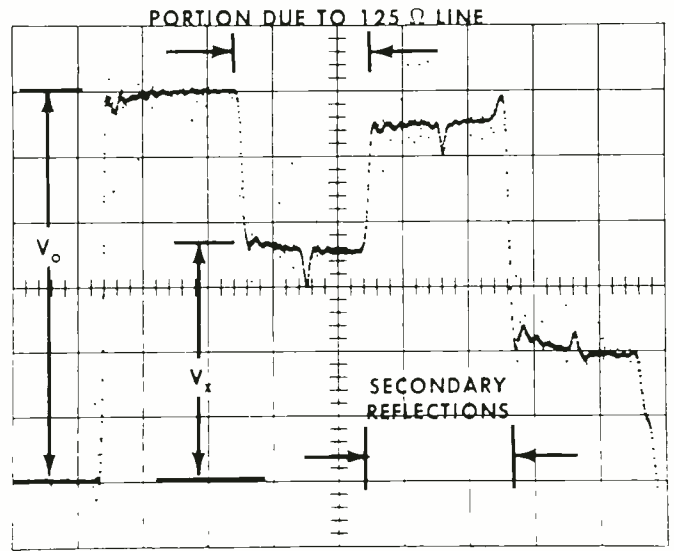

Fig. 4. Waveform obtained with 125-ohm cable and 50-ohm system.
2. Observe the incident and reflected pulses on the oscilloscope. Using Fig. 4 as a guide, determine the values of V_o (incident) and V_r (reflected). (This method is generally limited to the first reflections unless the deviations are small, due to multiple reflections and reflection losses.)
Fig. 4. On this dynamometer (only one side shown), the car can be "driven" at speeds to 70 mph while all tests are being performed. The dynamometer can also be "driven" by the car so that the vehicle's actual road horsepower can be determined. In essence, an instrumented road test.
The dynamometer is primarily a hydraulic energy-absorbing device which is able to measure and indicate the power transmitted from the wheels of the vehicle under test. The device may also have the additional capability of providing driving power to the wheels by means of two motors connected to the right and left rollers independently. In use, either the front or rear wheels of the vehicle are cradled between the dynamometer rollers, and when the rollers are rotating, various transducers transmit the torque and speed signals to appropriate readout meters which, in turn, indicate road speed and road horsepower. The dynamometer may also include a declutchable inertia weight to allow simulation of actual road load during acceleration and deceleration operations. Fig. 4 illustrates operation of a typical (in this case, a *Clayton*) dynamometer. The front and rear rollers cradle the drive wheels of the vehicle. The drive roll is coupled to the power-absorption unit shaft. The idle roller drives a tachometer generator that furnishes the current for the dynamometer electrical instruments.